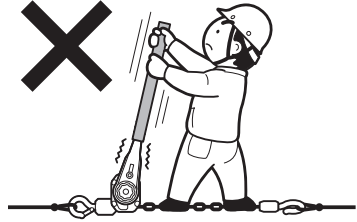

Figure 13
- (9) Do not use this equipment as a sling suspension device. Also, do not use with the load chain wrapped around the load.
- (10) Never operate equipment by means of pipes, etc. inserted into the Equipment or by stepping on the Equipment with your feet. (Figure 13)